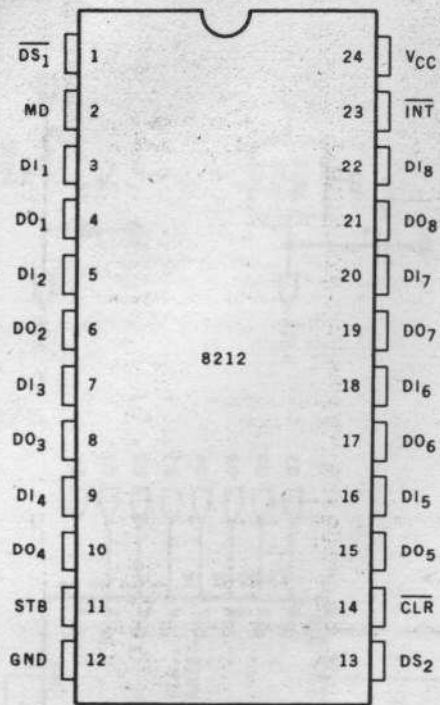

Figure 2: Pin configuration of the 8212 integrated circuit. This device is an 8-bit I/O port latch. Three of them are used in the EPROM programming circuit.
Each output port is an 8212 latch. The 8212 device is a general purpose I/O (input/output) port. The pin connections are shown in figure 2. The output of the latch is 3-state. If the mode input is high, the outputs are always enabled. When the device is selected by placing a low on $\overline{DS1}$ (active-low, device-select line) and a high on DS2 (active-high line), whatever data is present at the data input (DI) lines is latched and appears at the data output (DO) lines.